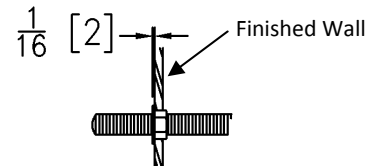

Figure 16
16. Thread a backup nut and bearing washer onto each 5/8 [16] rod. Adjust hardware so that the front surface of each flat washer is 1/16 [2] in front of the finished wall (see **Figure 16**). All bearing washers must be on the same plane to support the fixture and prevent cracking.